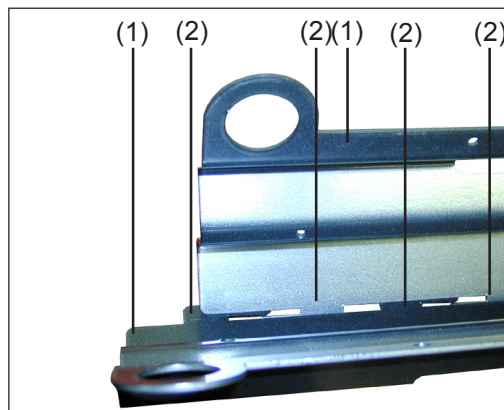
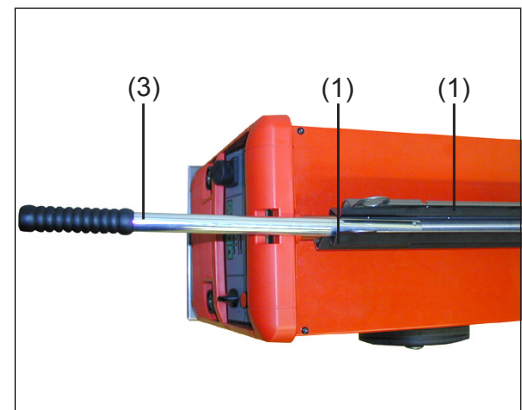

Fig.20 Slot the handle plates into place
Fig.21 Handle plates and handle tube
1. On the handle (4) of the power source, use the catches (2) to slot the handle plates (1) into one another (Fig.20 and Fig.21)
2. Insert the cotter pin (8) of the handle tube (3) into the guides (6) of both handle plates